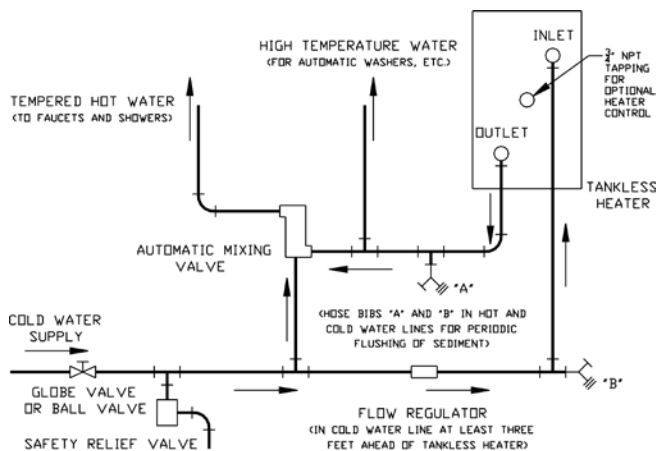

Figure 41: Schematic Tankless Heater Piping
1. **Hot Water Boiler/Tankless Coil(s)** – Tankless coils, mounted into the side of the boiler(s), have been used successfully for many years and may be used in single and multiple boiler applications. When a boiler is arranged with tankless coils, it is not recommended that outdoor reset be used, unless there are controls in place to prevent overheating of the space heating zones. Figure 41 depicts
O. CONNECT TANKLESS HEATER PIPING as shown in Figure 41. See Table V for Tankless Heater Ratings.
If flow through the heater is greater than its rating, the supply of adequate hot water may not be able to keep up with the demand. For this reason a FLOW REGULATOR matching the heater rating should be installed in the cold waterline to the heater. Refer to Figure 41 for piping recommendations. The flow regulator should preferably be located below the inlet to the heater and a minimum of 3 feet away from the inlet so that the regulator is not subjected to excess temperatures that may occur during “off” periods when it is possible for heat to be conducted back through the supply line. The flow regulator also limits the flow of supply water regardless of inlet pressure variations in the range of 20 to 125 psi.
All water contains some sediment which settles on the inside of the coil. Consequently, the heater should be periodically backwashed. This is accomplished by installing hose bibs as illustrated in Figure 41 and allowing water at city pressure to